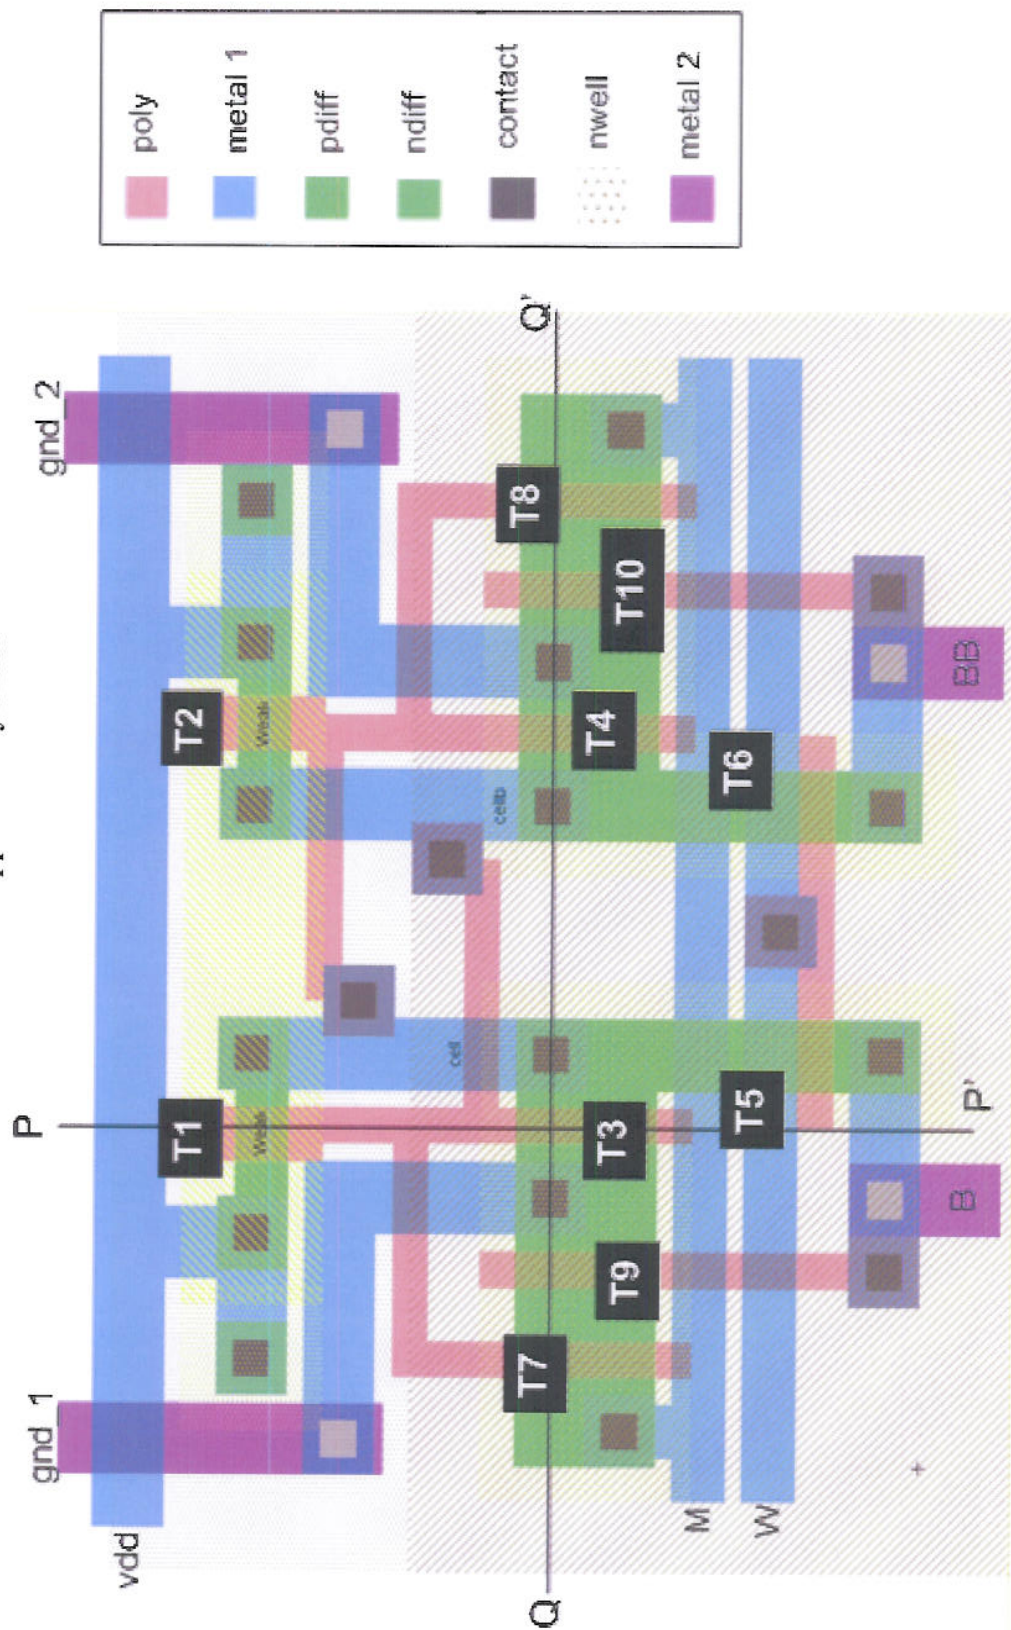

Figure 1.1 Layout of full-custom cell for Question 1
1. a) *Figure 1.1* (see the colour supplementary sheet) shows the layout of an n-well CMOS circuit *P* with four terminals: M, W, B and BB. Extract and draw the transistor-level schematic diagram of this circuit. Note that the supply signals are labelled as vdd, gnd\_1 and gnd\_2.
- d) For the layout shown in *Figure 1.1*, draw the vertical cross section along the lines PP' and QQ'. Label your diagram indicating the n-well region and the different types and levels of doping (e.g. p-, n+ etc).